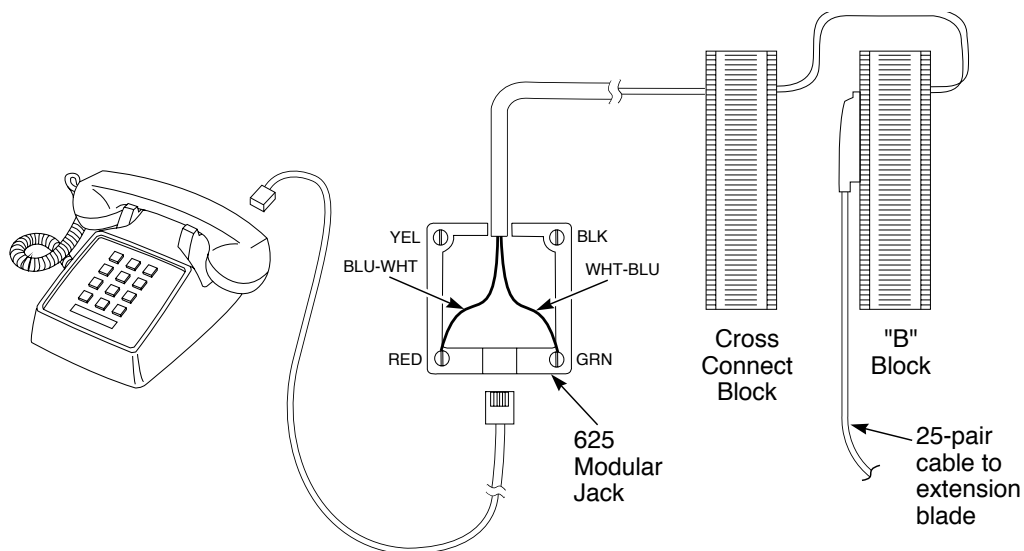

Figure 3-5: INSTALLING A SINGLE LINE TELEPHONE
3.6.1 Single Line Extension Cabling (Figure 3-5)
3.6.2 Installing a Single Line Telephone (Figure 3-5)